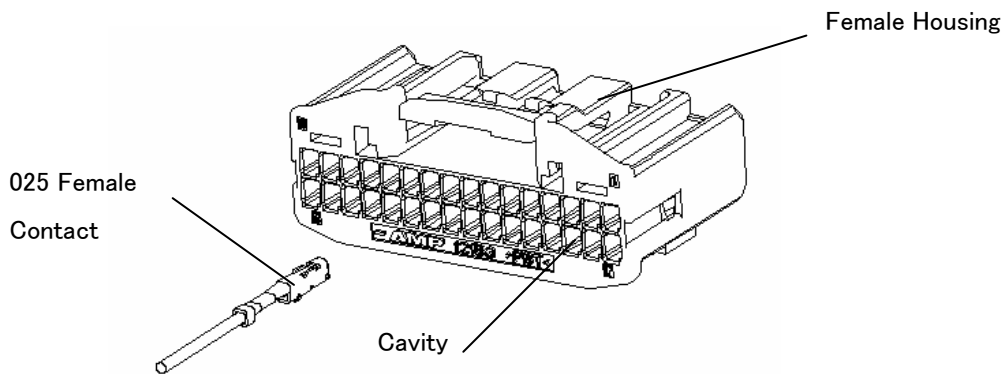

Fig.9
- (3) Insert the contacts into the housing with same direction as shown in Fig.9. The insertion is finished when the lance (Contact Lance) is locked and the contact can not be more inserted.